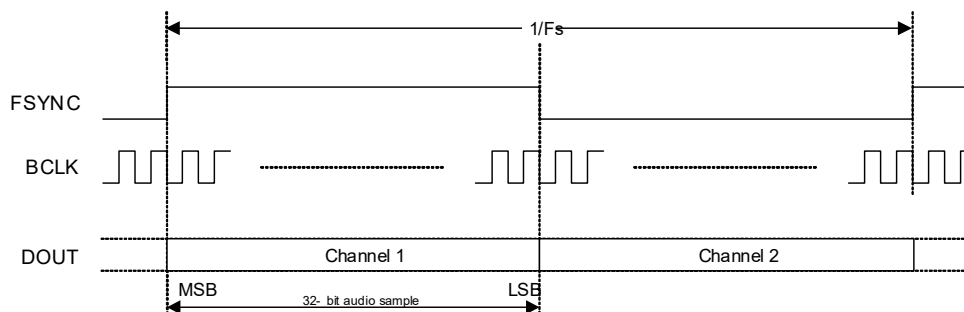

Figure 4-18. Left-Justified Data Format
- If Left-Justified data format is selected, the ASP supports audio channels 1–2 as shown in Fig. 4-18. The minimum BCLK rate is $64 \times F_s$ (where F_s is the sample rate). In ASP Primary Mode, the minimum BCLK rate of $64 \times F_s$ is not supported for sample rates of 16 kHz or 32 kHz. A higher BCLK frequency can be used, resulting in unused BCLK cycles between the LSB of one sample and the MSB of the next.